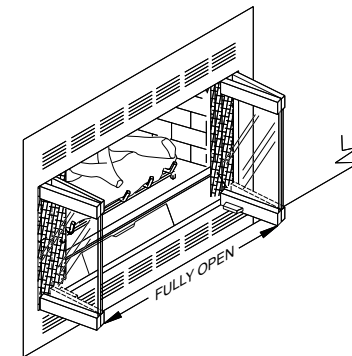

Figure 3 - Bi-Fold Doors Fully Opened
- Glass doors should be operated in the fully open or fully closed positions only (see Figure 3).